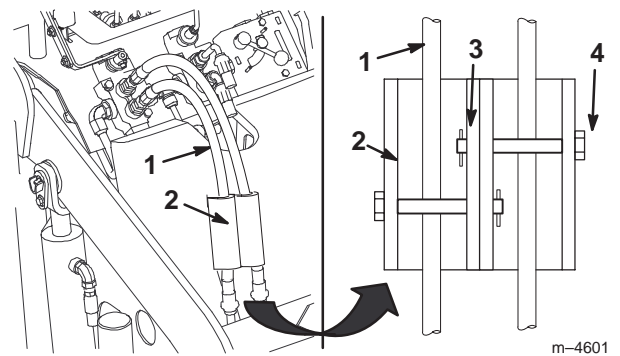

Figure 19
7. Install the cylinder locks over the hydraulic hoses and secure them with the clevis pins and cotter pins (Fig. 19).